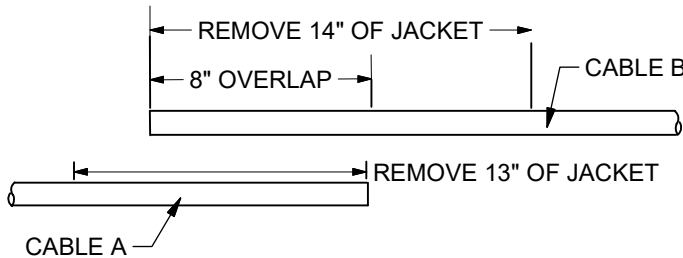

Figure 1
1. There must be an 8" overlap of the cables. See Figure 1. Wipe clean 24" on each side.